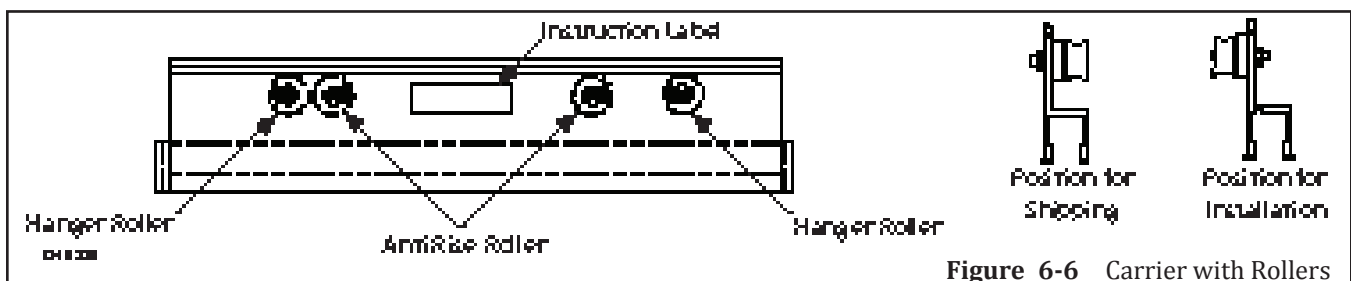

Figure 6-6 Carrier with Rollers
2. Remove each Roller by loosening the nut on with a 1/2" open end Wrench. Please see Figure 6-6.
- a. Lightly tighten Rollers in the positions seen in Figure 6-6.